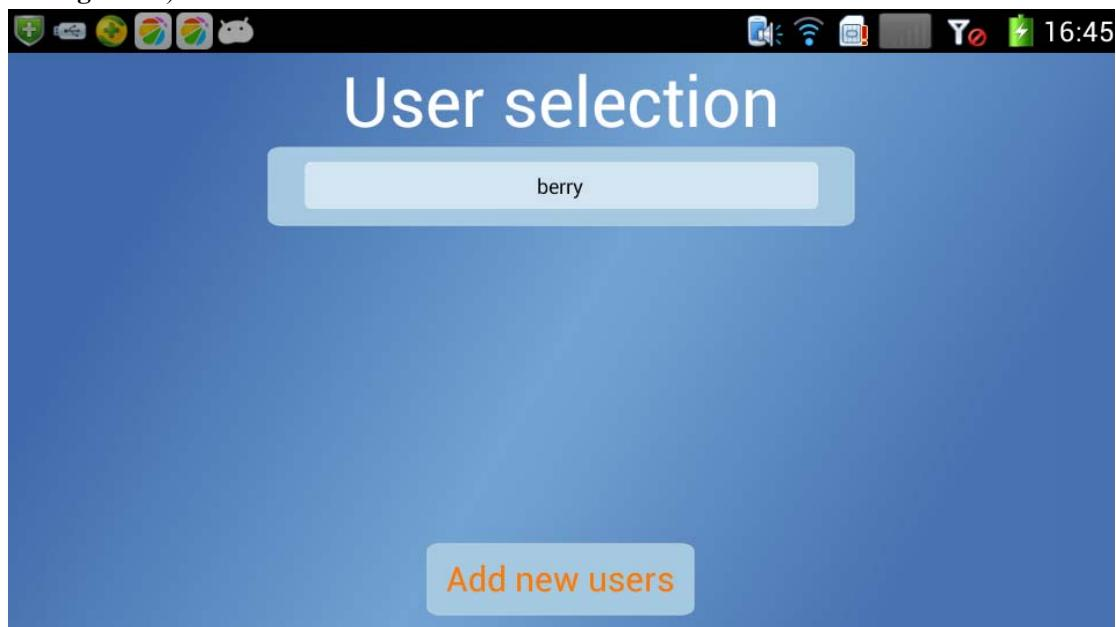

Figure 12
d. Input personal information, then click “Save” and enter the following interface. (as shown in **Figure 12**)